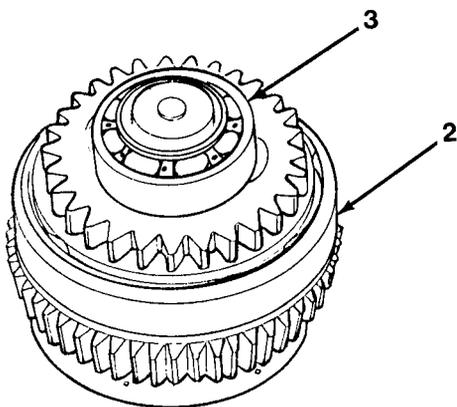

Figure 11-9
14. Invert clutch group (Figure 11-9).